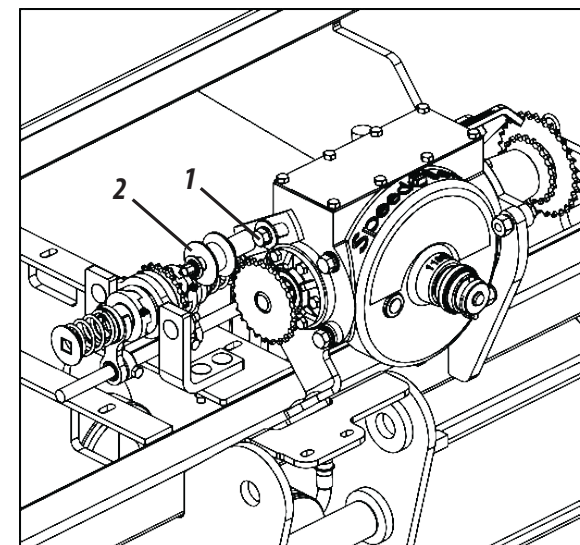

Figure 61
CHAIN TENSION (FIGURE 61)
- 1- Loosen the screw (1), slide the tensioner (2) until the necessary tension. Then, retighten the nut, as shown in Figure 61.